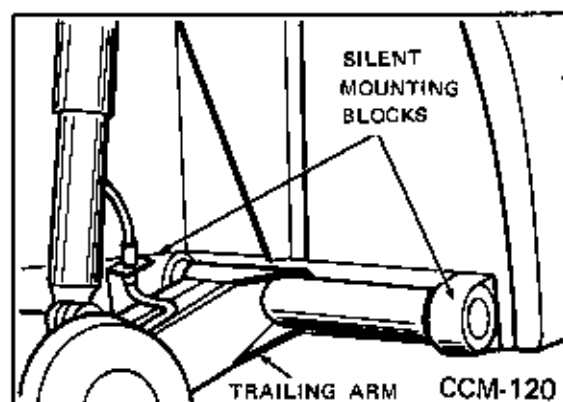

Fig. 115 Rear Wheel Adjustment
2. The rear wheels should have 1/8 inch toe-in for proper tire wear. Toe adjustments are made by shimming the trailing arm mounting blocks (Fig. 115). To increase toe-in, shim the inside mounting block on each side of the vehicle. To increase toe-out, shim the outside block on each side of the vehicle.